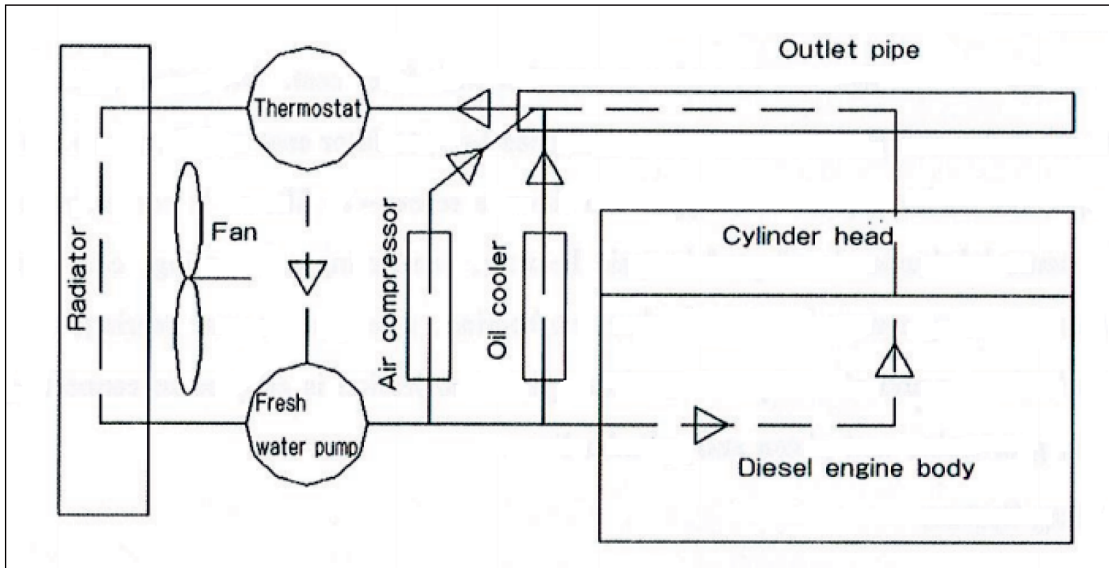

Figure 3-22
- Cooling water circulation system adopting fin and tube radiator and fan (Fig. 3-22)